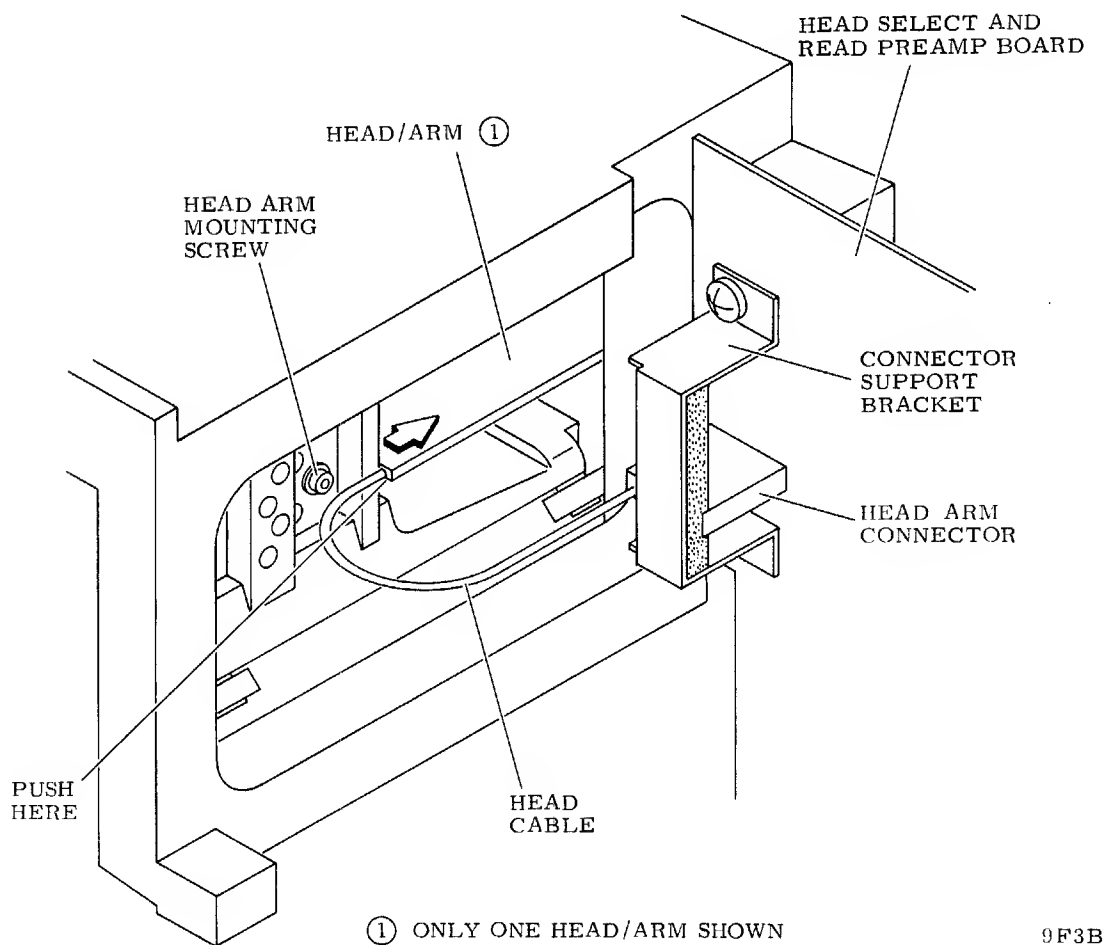

Figure 2-32. Head Replacement - Left Side View
The head arm assemblies are shown in figure 3-25, sheet 1. In addition, the various parts involved in the removal and replacement of the head arms are identified in figures 2-32 and 2-33. Repair of the head arm assemblies is limited to inspection and cleaning, refer to the Repair paragraph for details and limits.
4. Carefully grasp subject head arm at front and also push gently on rear of head arm as shown in figure 2-32. Guide head arm and connector(s) through adjacent head arms and into pack area.